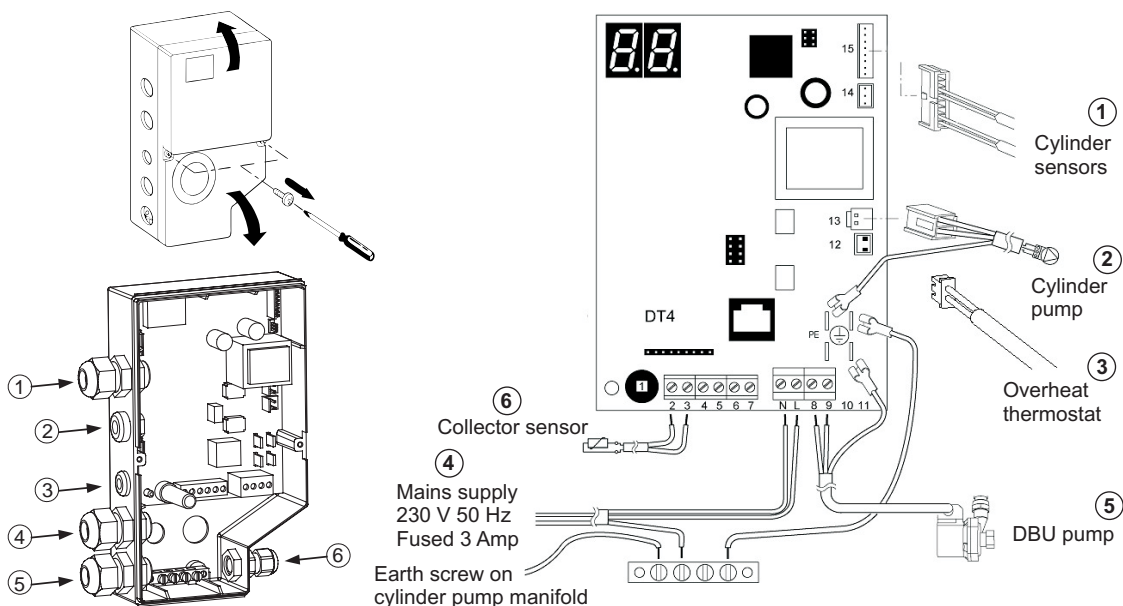

Fig. 18
4.10 ELECTRICAL CONNECTIONS - See Fig. 18 and Refer to Wiring Diagram Section 9
Ensure that the cable is secured in the cable clamp (5 in Fig 18).
Ensure that the cable is secured in the cable clamp (6 in Fig. 18).
4. Connect the cylinder sensors to the corresponding Red and White plugs in the control box. (terminal 15). Use cable clamp 1 as shown in Fig. 18.
5. Connect the cylinder pump plug to terminal 13. Use cable clamp 2 as shown in Fig. 18.
6. Connect the overheat thermostat to terminal 12. Use cable clamp 3 as shown in Fig. 18.
Note: The solar cylinder has been fitted with a mains supply cable. However, if it is necessary to fit an alternative supply cable refer to Section 3.1 and release the cable clamp (4 in Fig. 18). Connect the new lead as follows: